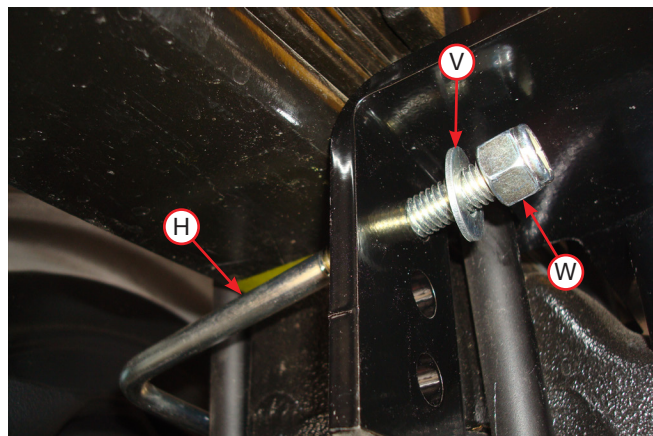

Fig. 22
3. Install the U-bolts (H) around the stock U-bolt/leaf spring assembly and insert through the topmost holes in the lower bracket main plates (Fig. 22). Cap with the 3/8" flat washer (V) and 3/8" nylon lock nuts (W). Snug bolts evenly, just enough to hold the lower bracket main plate flush against the stock U-bolts.